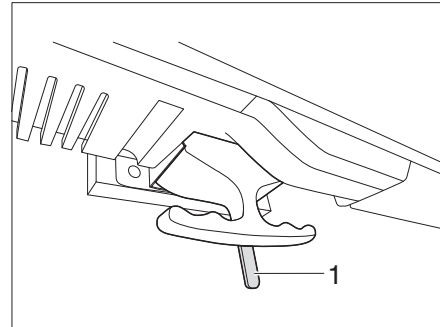

Fig. 137 Flat screen unlocking
- Push the lever (Fig. 137,1) to the left. The lock is released.
- Push the lever (Fig. 137,1) to the middle position. The flat screen is locked.